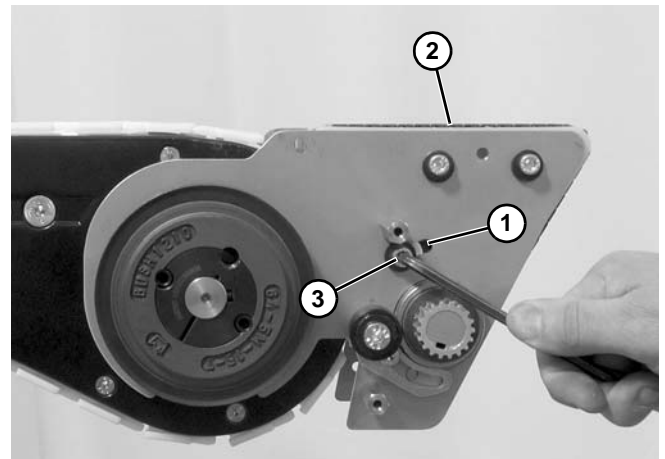

Figure 180
9. Slide idler assembly within slot (**Figure 180, item 1**) only enough to remove excess slack from belt (**Figure 180, item 2**). Tighten socket head screws (**Figure 180, item 3**).